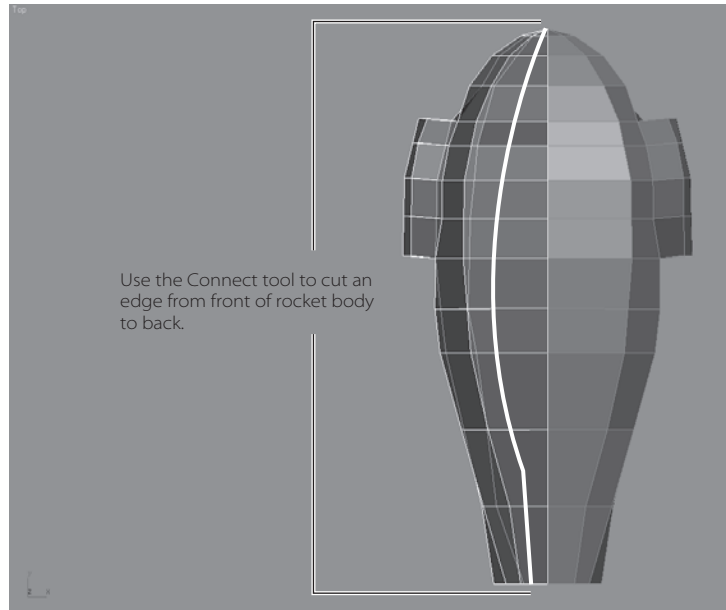

Figure 5.39
4. Now we are going to create a new cut line vertically down the length of the rocket body, as shown in Figure 5.39, using the same technique as in the previous exercise (the Connect tool).
5. This time, select one of the horizontal edges at the top of the rocket (as shown in Figure 5.40). Then in the Selection rollout, select Ring to automatically select all the horizontal edges above and below your initial selection. Go to Edit Edges and click Connect to create the new cut line shown in Figure 5.39.